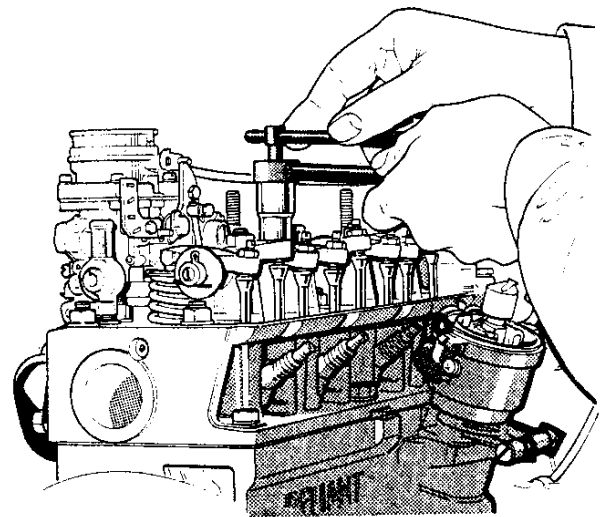

Figure 31 Tappet adjustment tool
- Alternatively the tappets can be adjusted using a proprietary tool similar to No. 6500A (see **figure 31**).